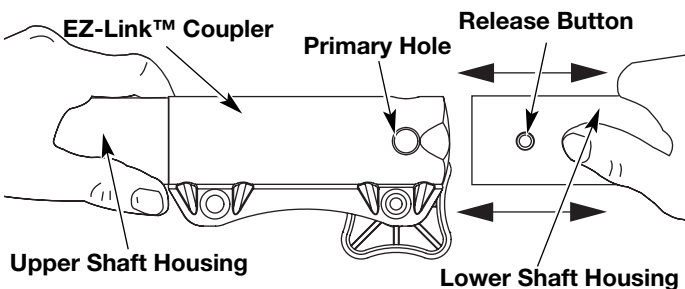

Fig. 12
3. While firmly holding the upper shaft housing, pull the cutting attachment or add-on straight out of the EZ-Link™ coupler (Fig. 12).
2. While firmly holding the add-on, push it straight into the EZ-Link™ coupler (Fig. 12).
**CAUTION:** Lock the release button in the primary hole (Fig. 12) and securely tighten the knob before operating this unit.